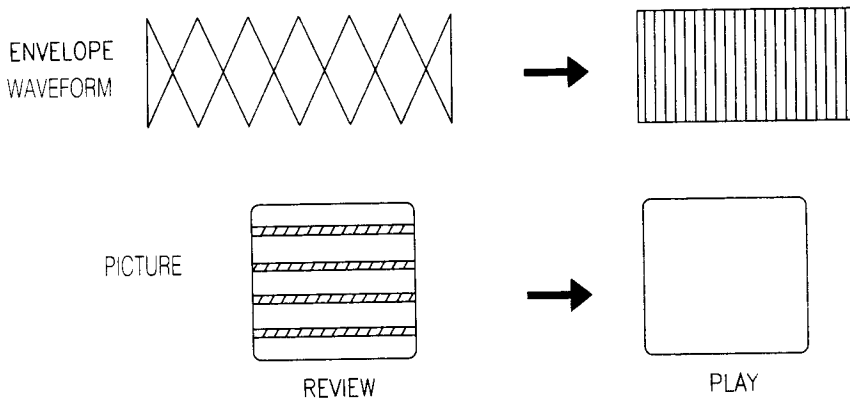

Fig. 5-10 CHECK OF TRANSITIONAL OPERATION (FROM REVIEW WAVEFORM TO PLAY WAVEFORM)
**I. REVIEW → PLAY (See Fig. 5-10)**